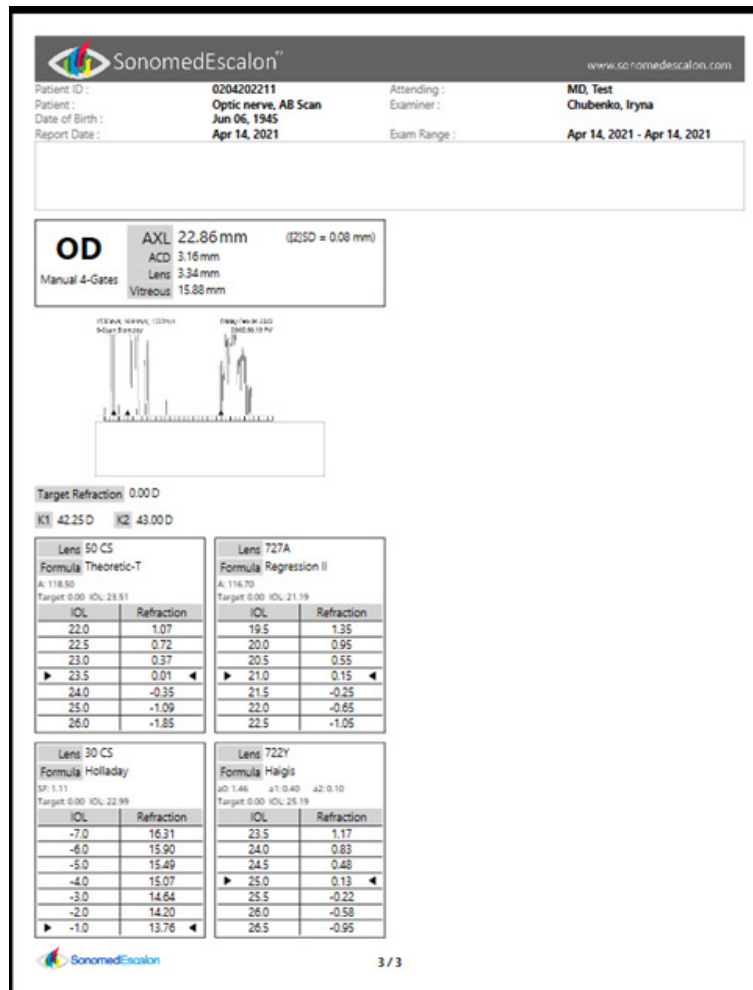

Figure 22: Report
⑨ Select the [Add Report] tab to add the calculations to the report page as shown in Figure 22.